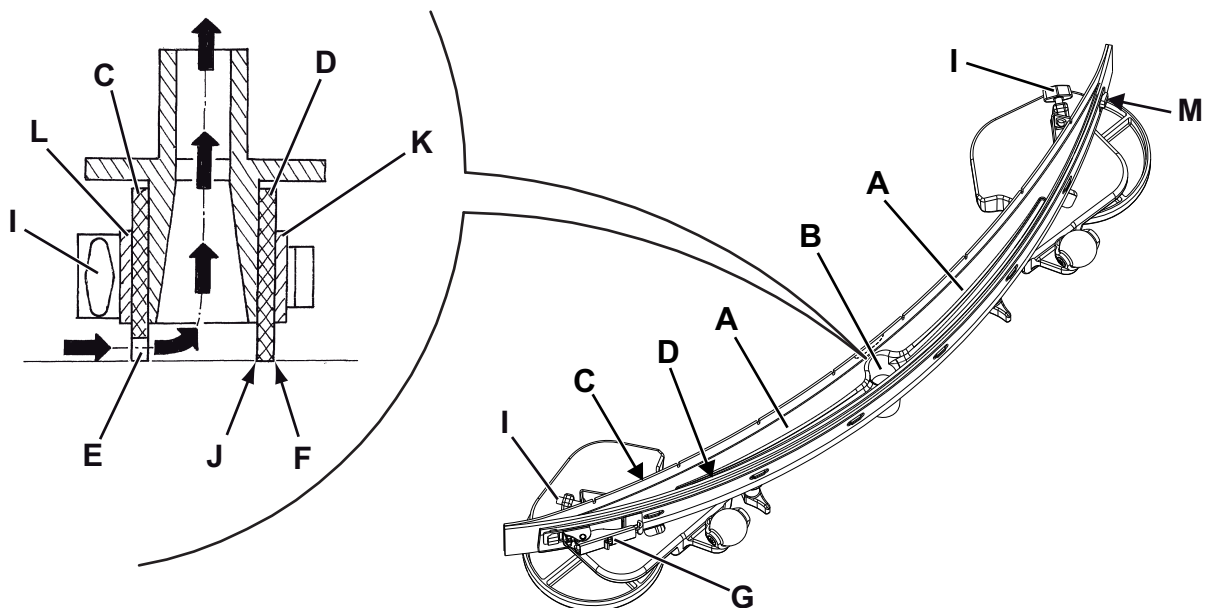

Figure 6
2. Insert the ignition key (58) and turn it to "I".
3. Lower the squeegee (30) by pressing the switch (63).
4. Turn the ignition key (58) to "0".
5. Disconnect the vacuum hose (31) from the squeegee.
6. Loosen the handwheels (34) and remove the squeegee (30).
7. Wash and clean the squeegee. In particular, remove dirt and debris from the compartments (A, Fig. 6) and the hole (B). Check that the front blade (C) and the rear blade (D) are integral and free from cuts and lacerations; if necessary replace them.
1. Clean the squeegee (Fig. 6) as shown in the previous paragraph.
2. Check that the edge (E) of the front blade (C) and the edge (F) of the rear blade (D) lay down on the same level, along their length; otherwise adjust their height according to the following procedure:
- Remove the tie rod (G), disengage the fastener (M) and adjust the rear blade (D); then engage the fastener and install the tie rod.
- Loosen the handwheels (I) and adjust the front blade (C), then tighten the handwheels.
3. Check the front blade (C) and rear blade (D) for integrity, cuts and tears; otherwise replace them according to the following procedure. Check the front corner (J) of the rear blade for wear; if necessary, overturn the blade to replace the worn corner with an integral one. If the other corners are worn too, replace the blade according to the following procedure:
- Remove the tie rod (G), disengage the fastener (M) and remove the retaining strip (K), then replace/overturn the rear blade (D).
- Unscrew the handwheels (I) and remove the retaining strip (L), then replace the front blade (C).
4. Connect the vacuum hose (31) to the squeegee.